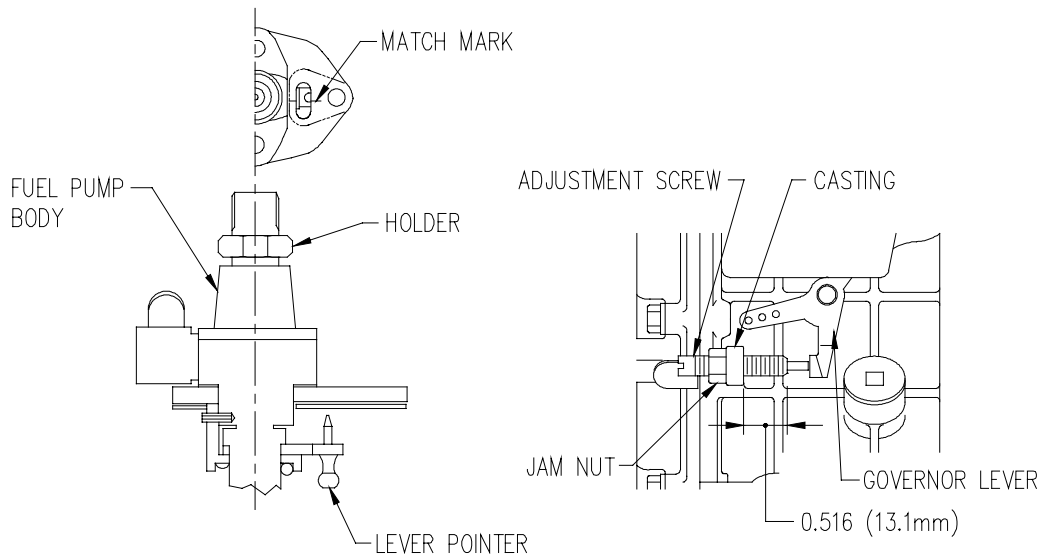

Figure 5-13. Fuel Injection Limitation Setting
- (3) Insert fuel injection pump into crankcase port ensuring that lever pointer (Figure 5-13) enters fork in governor lever (Figure 5-36).
- (4) Secure fuel injection pump to engine with top two nuts. Torque nuts to 8 lbs-ft (10.8 Nm). Do not install cover and gasket at this time.
- (5) While watching fuel injection pump lever pointer (Figure 5-13), move RUN lever back and forth several times ensuring pointer moves in each direction with RUN lever.
- (b) Measure length of threaded portion of fuel limitation adjustment screw extending forward of adjustment screw casting (Figure 5-13). Measurement should be 0.516 in. (13.1 mm).
(a) Loosen holder (Figure 5-13) on fuel injection pump.